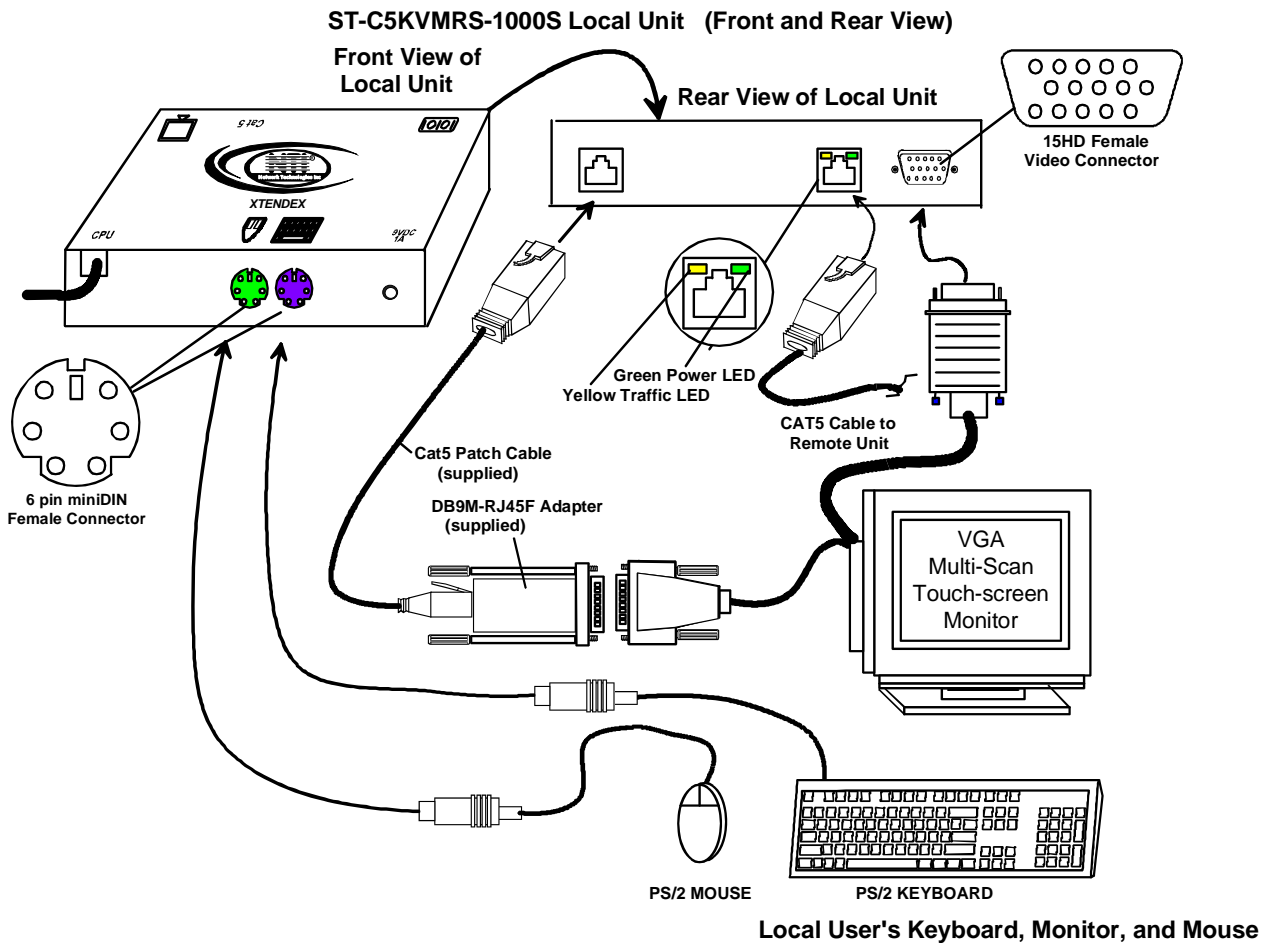

Figure 3- Connect the local user to the XTENDEX Local Unit
2. Make connections for a local user (see Fig. 3)